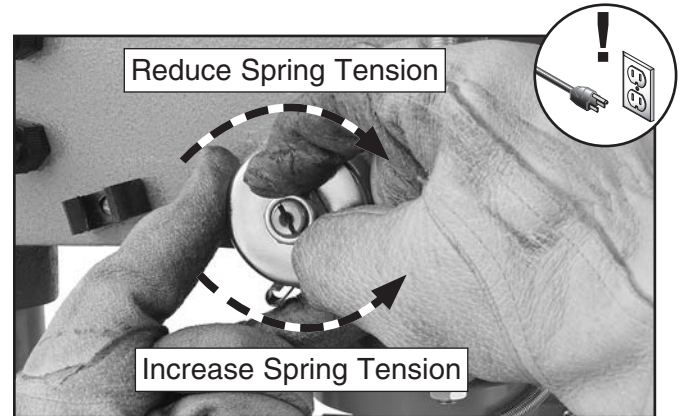

Figure 40. Example of adjusting cover.
6. Rotate cover counterclockwise to increase tension, or let cover slowly unwind in clockwise direction to reduce spring tension (see **Figure 40**).